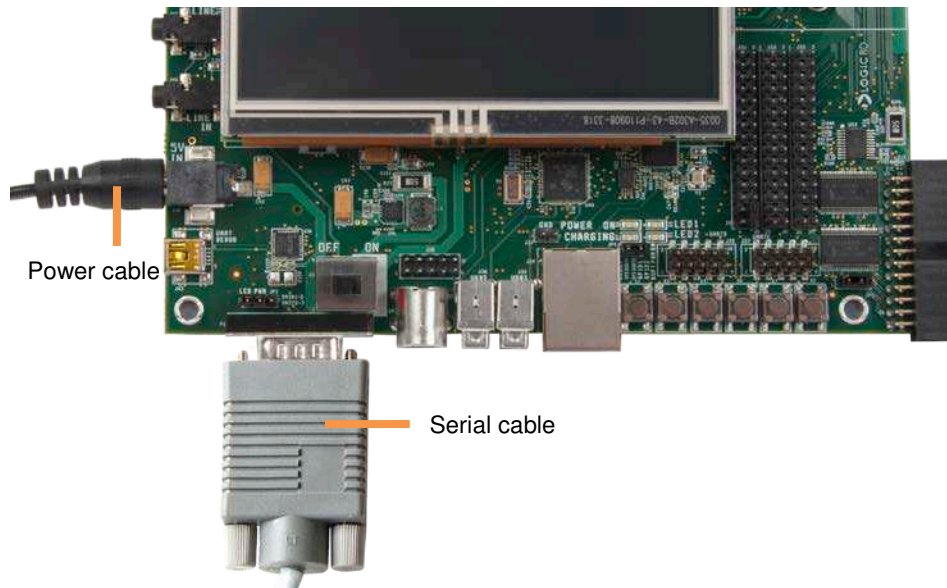

Figure 2.1: Connect Serial Cable
| Figure 2.1: Connect Serial Cable | 3 |
1. Connect the null-modem serial cable to the serial port connector on the baseboard and to an empty COM port on your host PC. See Figure 2.1.
3. Plug the power adapter into an electrical outlet and the 5V line output connector into the power-in connector on the baseboard. See Figure 2.1.